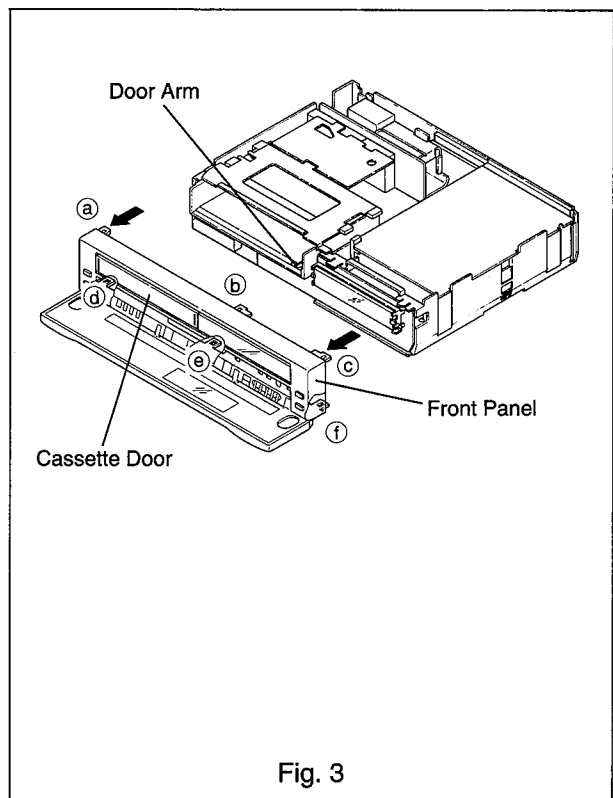

Fig. 3
- A. Remove the top cover (item 1).
- B. Unfasten six snaps (Ⓐ~Ⓕ) as shown in Fig. 3, and remove the front panel in the direction shown by the arrows.
- B. While holding the Cassette door open, mount the front panel to the VCR and fasten six snaps (Ⓐ~Ⓕ) using gentle pressure to the front panel as shown in Fig. 3.